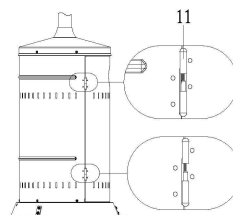

Fig. 2
Tighten inner gas pipe (16) to main burner (See Fig. 2). Then fix main burner to the post with 3 bolts M5\*12 and 3pcs washers. (Detail Fig. E)